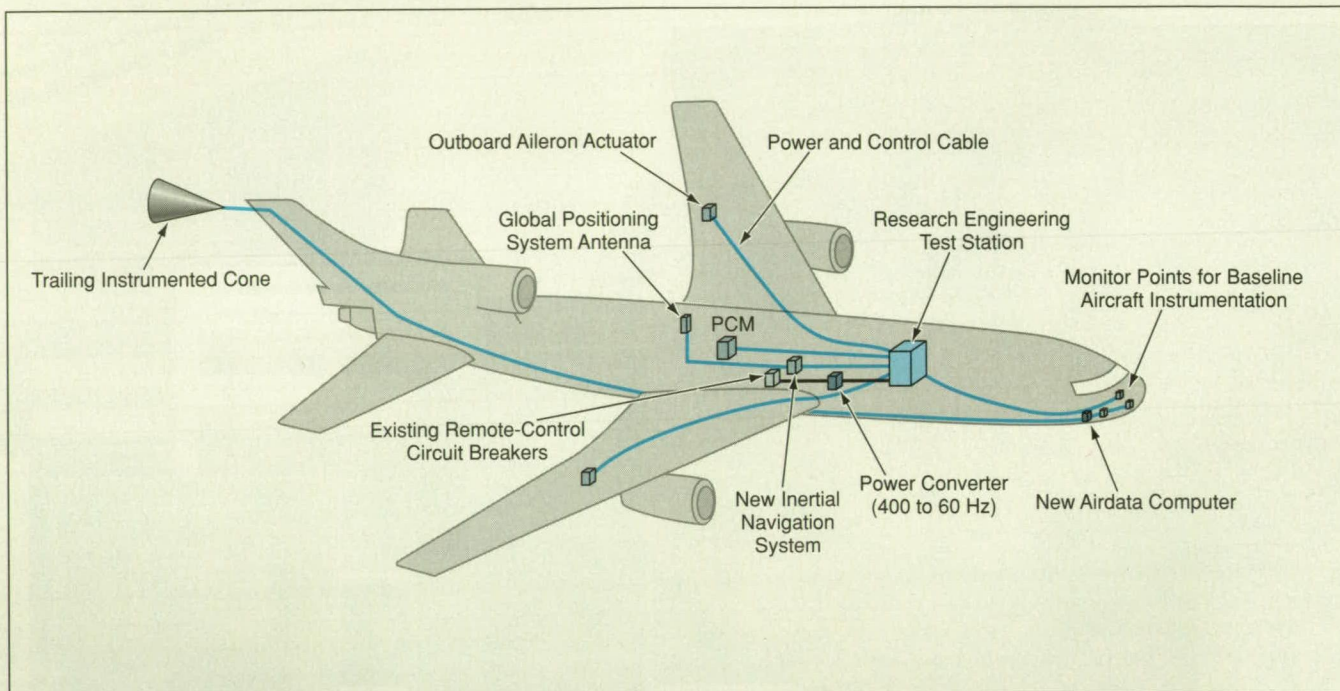

Figure 1. A Transport Airplane Was Modified for use in experiments on APO.
An L-1011 airplane has been modified for use in a NASA program of flight research in APO for transport airplanes. The modifications (see Figure 1) consist of (1) addition of a research engineering test station; (2) addition of an actuator (one on each wing) to drive the outboard ailerons symmetrically; (3) addition of an instrumented trailing cone to obtain